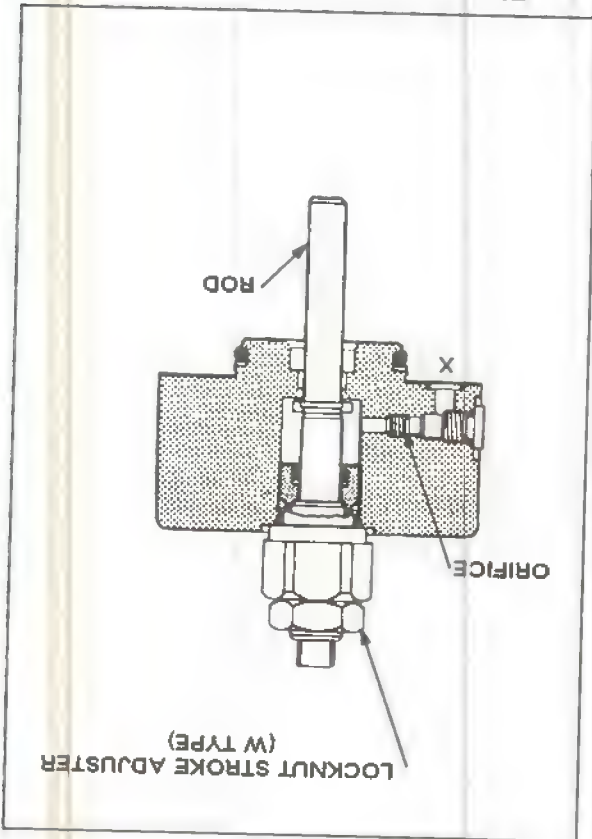

Figure 4. Directional Cover with Stroke Adjuster (A Function)
Three types of adjustments are available - locknut (W), the micrometer (M), and micrometer with key lock (K). Refer to Figure 4 for the basic locknut adjustment (W) arrangement (W only on 50 and 63mm sizes). The micrometer adjuster provides precise control with the capability of returning to a previous pressure setting when desired. The three adjuster types are described in more detail in Section VII.